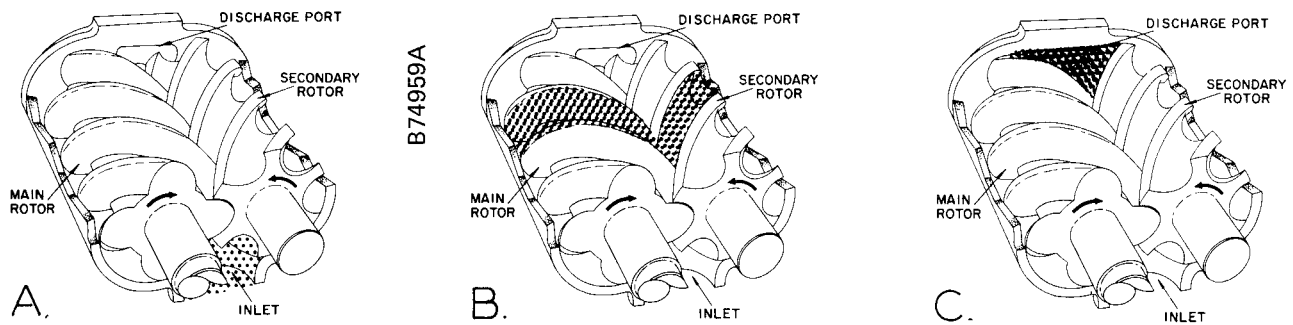

FIGURE 1-1. — COMPRESSION CYCLE
COMPRESSION PRINCIPLE (Figure 1-1) — Compression is accomplished by the main and secondary rotors synchronously meshing in a one-piece cylinder. The main rotor has four (4) helical lobes 90° apart. The secondary rotor has six (6) matching helical grooves 60° apart to allow meshing with main rotor lobes.
The air inlet port is located on top of the compressor cylinder near the drive shaft end. The discharge port is near the bottom at the opposite end of the compressor cylinder. *Figure 1-1 is an inverted view to show inlet and discharge ports.* The **compression cycle** begins as rotors unmesh at the inlet port and air is drawn into the cavity between the main rotor lobes and secondary rotor grooves (A). When the rotors pass the inlet port cutoff, air is trapped in the interlobe cavity and flows axially with the meshing rotors (B). As meshing continues, more of the main rotor lobe enters the secondary rotor groove, normal volume is reduced and pressure increases. Oil is injected into the cylinder by proprietary means to remove the heat of compression and seal internal clearances. The Electra-Saver II utilizes Gardner-Denver’s exclusive Intensive Injection System to feed coolant into the compression chamber through dozens of small injection ports. This greatly improves the rate of heat exchange between the air/oil mixture with most of the injection and heat transfer occurring where the air has reached its highest pressure and greatest temperature. Hot spots in the compression cycle are eliminated. Volume reduction and pressure increase continues until the air/oil mixture trapped in the interlobe cavity by the rotors passes the discharge port and is released to the oil reservoir (C). Each rotor cavity follows the same “fill-compress-discharge” cycle in rapid succession to produce a discharge air flow that is continuous, smooth and shock-free.